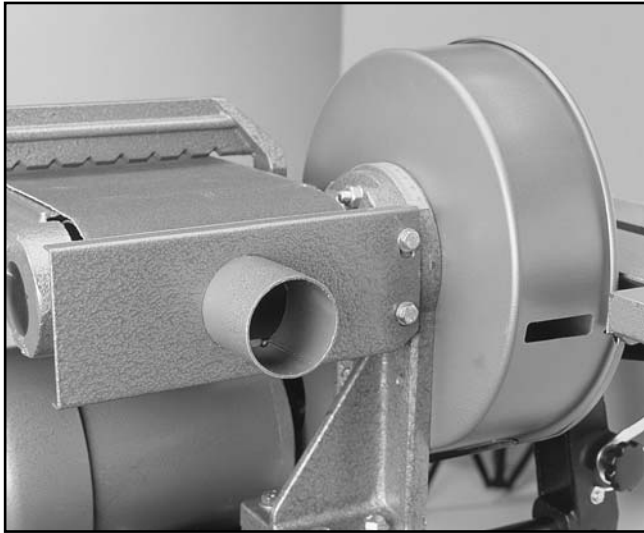

Figure 9.
6. Now install the Dust Port using the Hex Bolts and Washers as shown in **Figure 9**.